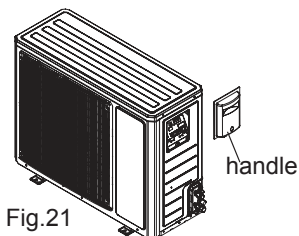

Fig. 21
- (1) Remove the screw on the right handle of outdoor unit and then remove the handle.(As show in Fig.21)